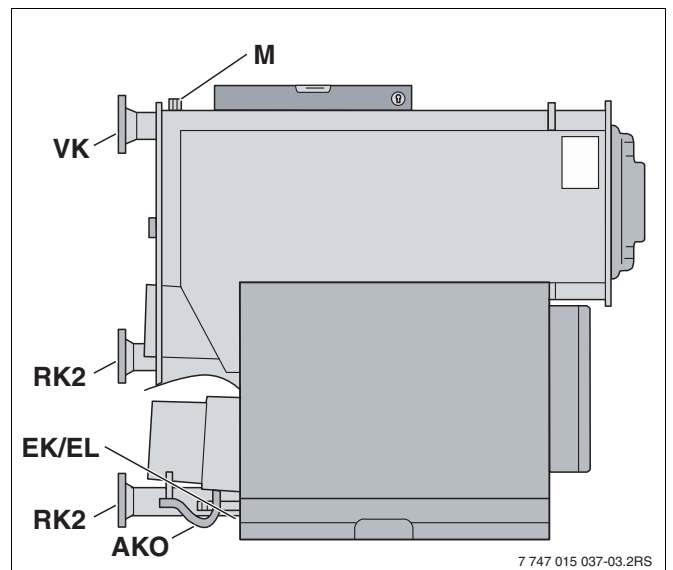

Fig. 24 Legend see Tab. 2, page 8
- Remove upper and lower front panels (Fig. 24).
- Remove thermal insulation (Fig. 24).
- Refit lower and upper front panels (Fig. 24).
4	Remove front boiler panels, open burner door (Fig. 24, page 23)